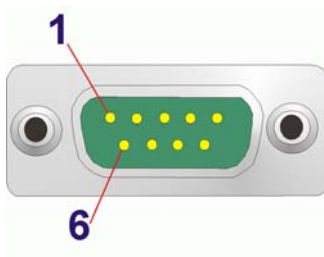

Figure 3-9: CAN-bus Connector Pinout Location
- CN Pinouts:** See **Table 3-2** and **Figure 3-9**